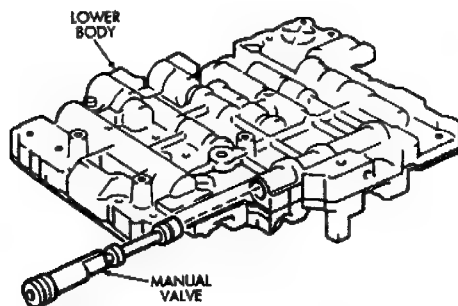

Fig. 4 Removing/Installing Manual Valve
- (2) Remove manual valve from lower body (Fig. 4).